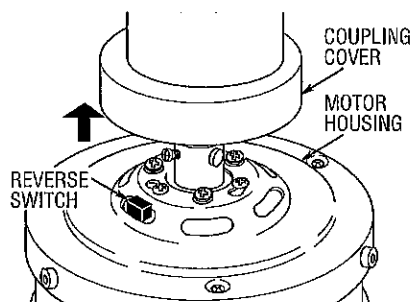

Figure 27
- 3. If airflow is desired in the opposite direction, turn the fan off and wait for the blades to stop turning. Then slide the coupling cover up, push the reversing switch in opposite direction (Figure 27) Slide coupling cover down to rest on motor housing and turn the fan on again. The blades will turn in the opposite direction and reverse the airflow.